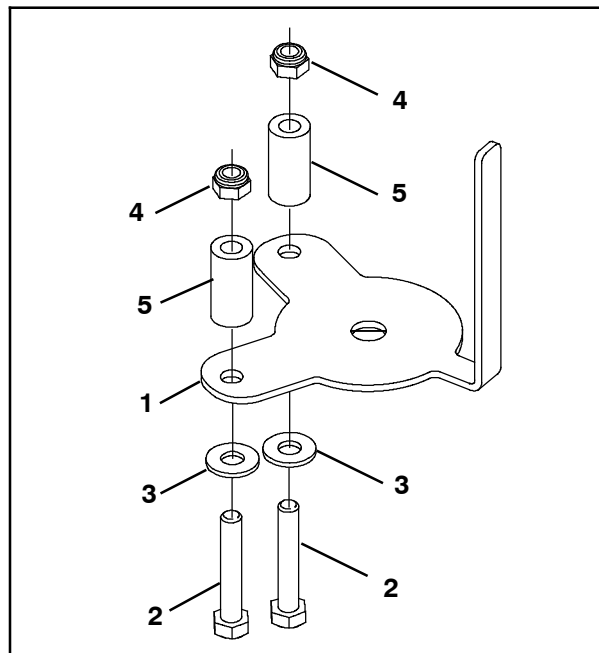

FIG. 1
1. Use two M5 hex screws (2), two flat washers (3), and two M5 hex nuts (4) to install each cable keeper spacer (5) onto the cable keeper angle (1). Torque hardware to 4.5- 5.5 Nm (3.32- 4.10 ft. lbs). (Fig. 1)